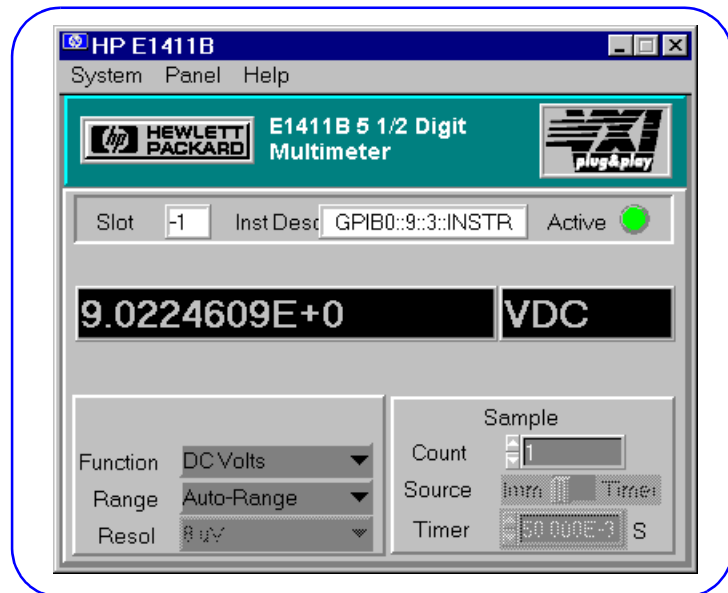

Figure 30. Example: HP E1411B Soft Front Panel Display
- 2 To display the HP E1411B Soft Front Panel, turn the PC ON and click *Start|Programs|Vxipnp|HP E1411 DVM (32-bit SFP)*. Then, to measure the 9V battery value, click the *System|Auto Update* menu item. See Figure 30 for a typical display.
- 3 Some features of the Soft Front Panel display in Figure 30 are: